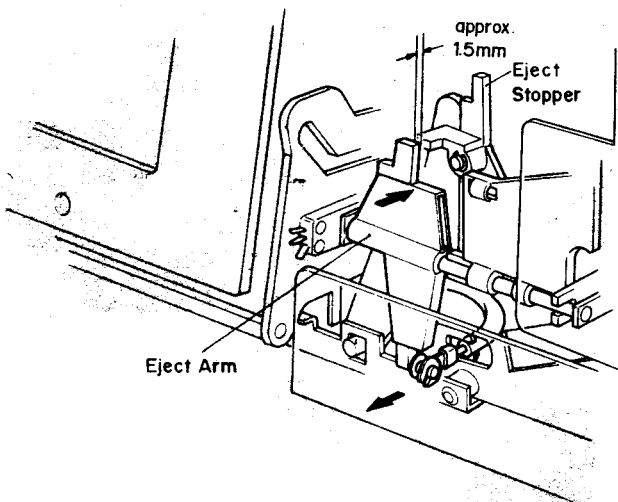

Fig. 5.16.1
(1) Referring to Fig. 5.16.1, insert a 1.5 mm spacer between the Eject Arm and Eject Stopper by turning the Eject Arm in the illustrated direction, then set the N-480 in playback mode.